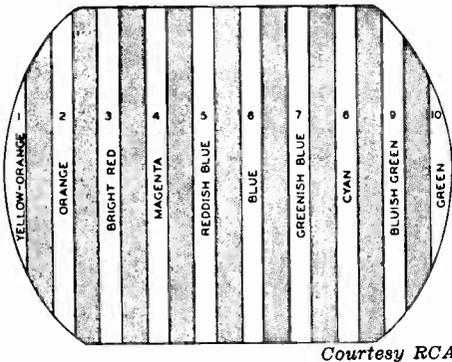

Fig. 6. Color-bar pattern produced by color-bar generator.
mixing circuits. The color-bar generator produces signals that form a number of colored vertical bars on the screen of the picture tube. A typical color-bar pattern produced by a color-bar generator is shown in Fig. 6. The sequence, number, and color of the bars differ for the various commercially available bar generators. Therefore, the service technician must become familiar with the number and color sequence of the particular color-bar generator which he uses. The color bars pro-
The color-bar pattern shown in Fig. 6 is composed of 10 colored vertical bars that extend from the top to the bottom of the screen. Notice that the spaces between the bars contain no color. This half-tone background can be used to compare the color levels and the background brightness. From left to right, the colors of the bars are dull yellowish-orange, orange (I), bright red (R —Y), magenta (Q), reddish blue, blue (B —Y), greenish blue, cyan (—I), bluish-green —(R —Y), and dark green.
RCA WR-61A. This color-bar generator produces 10 vertical color bars, which correspond to the National Television System Committee (NTSC) Standard R—Y, B—Y, G—Y, I, and Q signals, as shown in Fig. 6. In addition, the instrument also provides a crystal-controlled picture carrier, a 3.58-megacycle color subcarrier, and a sound carrier.